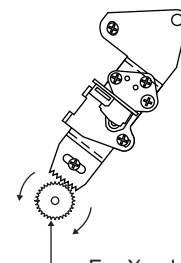

Figure 4-33.
Move the A/C head with the X value adjustment gear driver (JiGDRiVER-6) by the method shown in Figure 4-33, and adjust the A/C head so as to get the maximum envelope waveform. (Note: When the A/C head is adjusted, adjust so that the maximum envelop waveform is obtained nearest the position of initial setting made in Page 21.)
- ③ Move the A/C head with the X value adjustment gear driver by the method shown in Figure 4-33, and adjust the A/C head so as to get the maximum envelope waveform. (Note: At this time adjust so as to get the maximum envelope waveform nearest the A/C head position which has been set in case of X value rough adjustment as stated in Page 23, 3- ②.)
- ④ Tighten finally the screws ① and ②. Be sure to tighten at first the screw ① and then the screw ②. Final tightening torque is 0.6N·m (If the screw ② is tightened first, the X value may deviate.)
- ⑤ Adjust the playback switching point (Refer to the electric adjustment method.)
- ⑥ Playback the self-picture-recorded tape, and check the flatness of envelope waveform and sound.